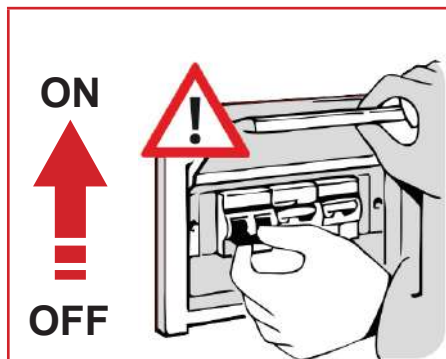

Fig. 13
- If present, set the protection magnetothermic switch located upstream of the power socket to the "ON" position (Fig. 13).